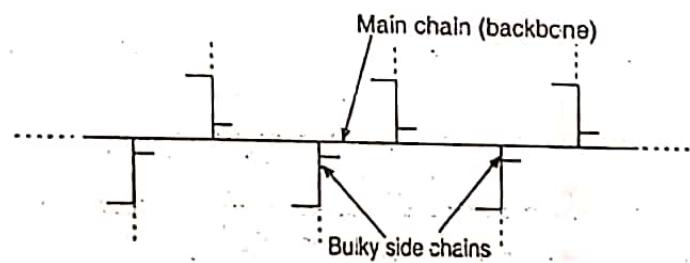

Fig. 2. Branched-chain polymer.
(2) During the chain growth, side chains may also form, resulting in branched-chain molecules (see Fig. 2). Such a molecule is no doubt a linear, but the movement in branched-chain molecules is, generally, more restricted than that of simple straight-chain molecules. A branched-chain polymer also results, when a trifunctional monomer is mixed in small amounts with a bifunctional monomer and polymerized.